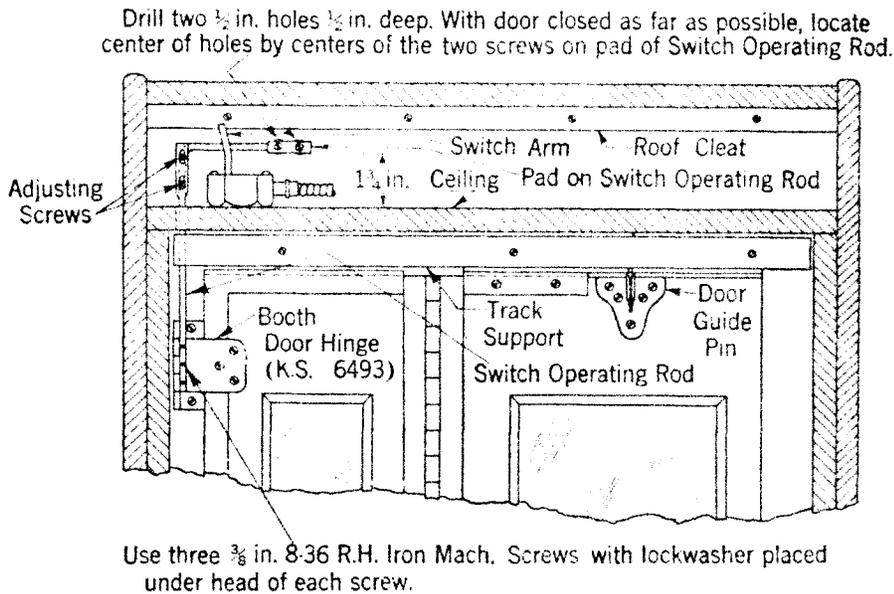

Fig. 3
- (i) Remove upper door hinge, attach switch operating rod to new door hinge KS-6493, loosen adjusting screws of switch operating rod and mount new hinge as shown in Fig. 3, using screws from old hinge.
- (m) Drill holes to provide clearance for switch operating rod as shown in Fig. 3.